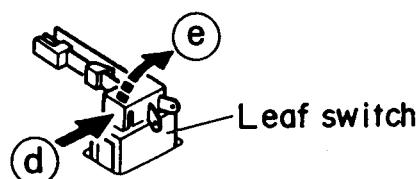

Fig. 2-24
■ Leaf switch (Fig. 2-24)
Press the leaf switch in the direction of the arrow ⑦ and then remove it in the direction of the arrow ⑧ referring to Fig. 2-24.